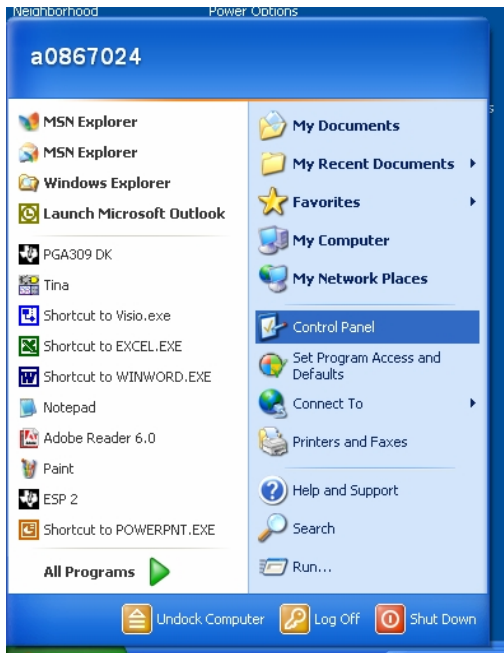
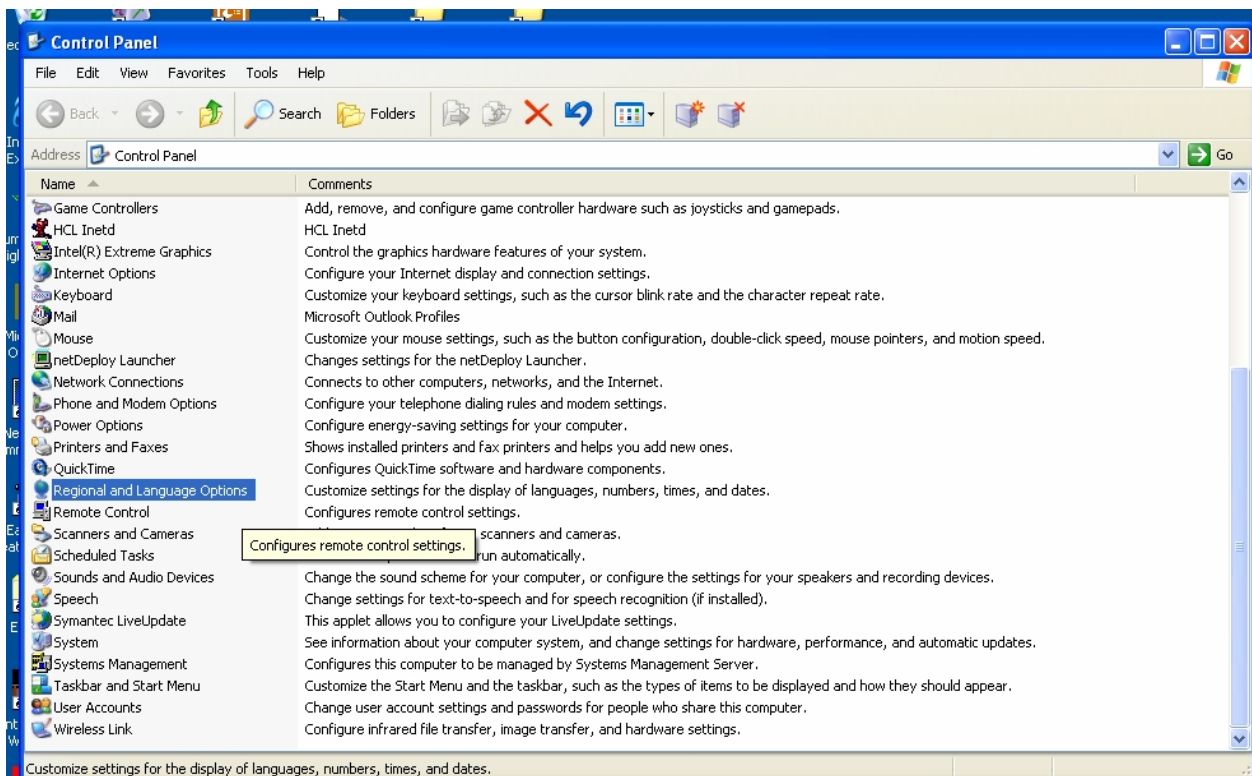
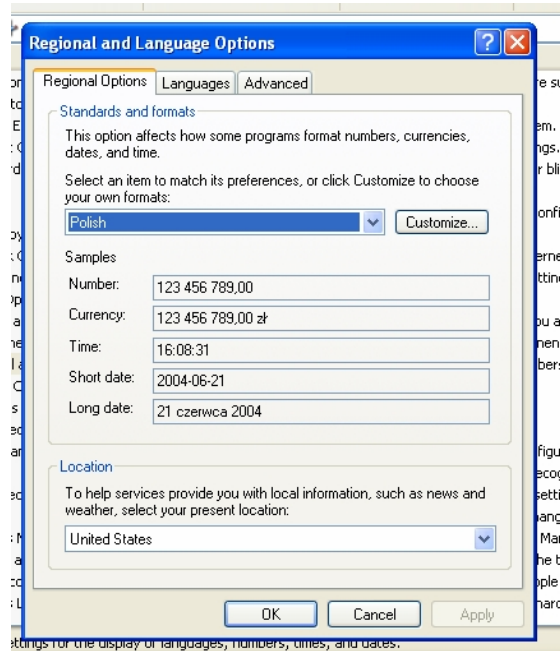

Figure 49: “Control Panel” Select
Figure 50: “Control Panel”
Figure 51: “Regional and Language Options” pop-up window
See Figure 49. The Control Panel will open in a new window as shown in Figure 50.
Step 2: As in Figure 50, select and click on “Regional and Language Options” in the “Control Panel” window. A new pop-up window, “Regional and Language Options” will appear as in Figure 51.